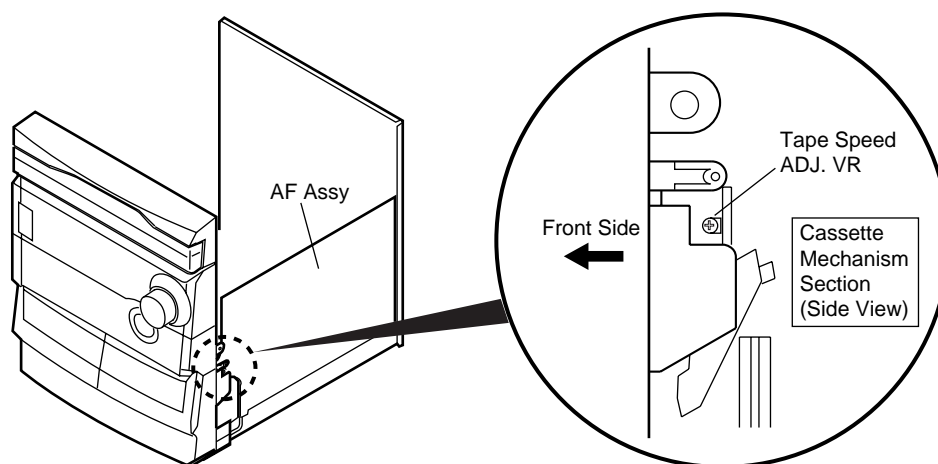
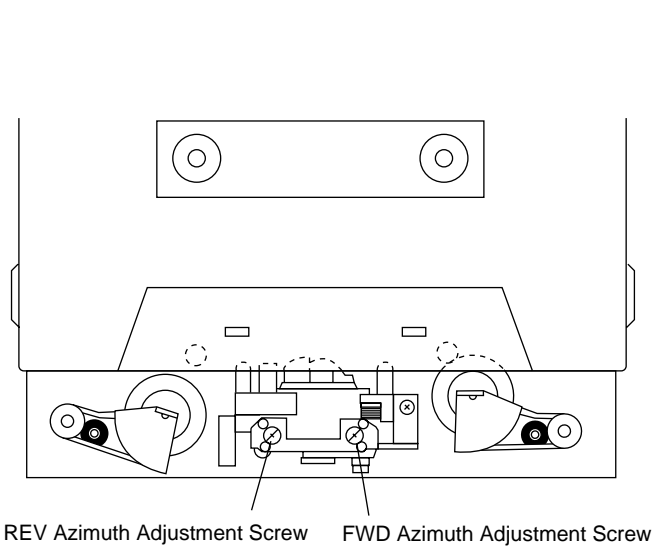

Fig.3 Tape Speed ADJ. Point
Fig.5 Head Azimuth Adjustment Screw
- Adjustment points and test points are shown in Fig.3, Fig.5 and Fig.7.